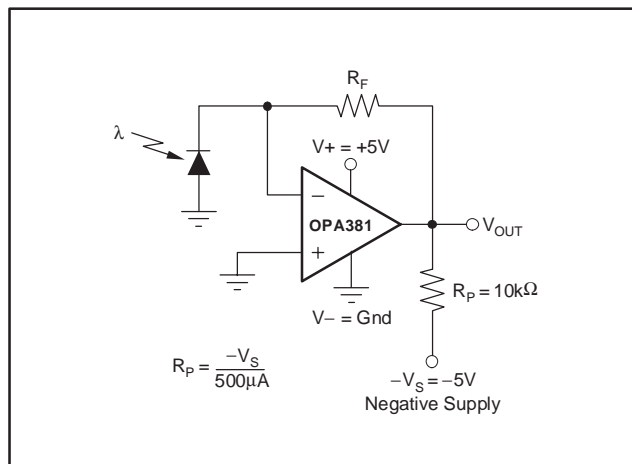

Figure 3. Amplifier with Pull-Down Resistor to Achieve $V_{OUT} = 0V$
- (1) High temperature operating life characterization of zero-drift op amps applying the techniques used in the OPA381 have repeatedly demonstrated randomly distributed variation approximately equal to measurement repeatability of $1\mu\text{V}$. This consistency gives confidence in the stability and repeatability of these zero-drift techniques.
- (2) Tested with output connected only to R_P , a pulldown resistor connected between V_{OUT} and $-5V$, as shown in Figure 3. See also **Applications** section, *Achieving Output Swing to Negative Rail*.
- (3) Transimpedance frequency of 250kHz.
- (4) Time required to return to linear operation.
- (5) From positive rail.
The OPA381 performance results from an internal auto-zero amplifier combined with a high-speed amplifier. The OPA381 has been designed with circuitry to improve overload recovery and settling time over that achieved by a traditional composite approach. It has been specifically designed and characterized to accommodate circuit options to allow 0V output operation (see Figure 3).
The output of the OPA381 can be made to swing to 0V, or slightly below, on a single-supply power source. This extended output swing requires the use of another resistor and an additional negative power supply. A pull-down resistor may be connected between the output and the negative supply to pull the output down to 0V; see Figure 3.